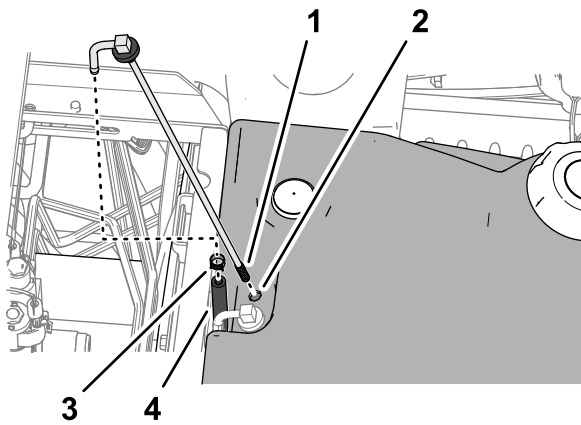

Figure 83
3. Remove the clamp that secures the hose to the fuel pick-up tube (Figure 83).
5. Clean the screen at the end of the fuel pick-up tube (Figure 83).